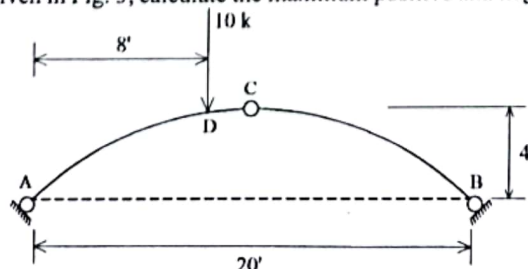

Fig. 3
| b)    | For the arch given in Fig. 3, calculate the maximum positive and negative moments.    | (30) | 2 |